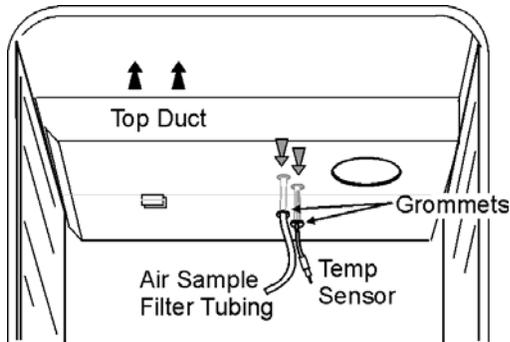

Figure 4-3
13. Install the top duct by feeding the temperature sensors, air sample tubing through the appropriate holes in the duct as it is raised to the top of the chamber. Be careful not to pull the grommets through the duct (Figure 4-3).